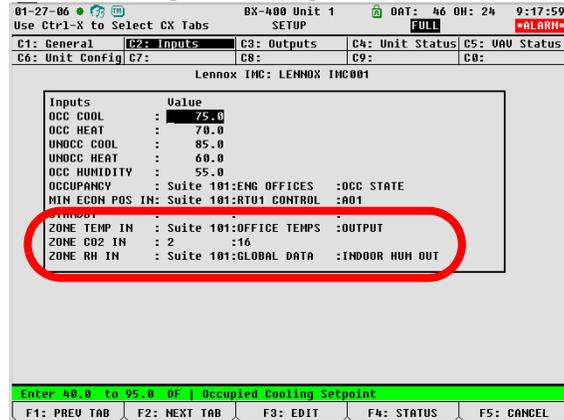

Figure 11 - Lennox IMC Setup Screens (Inputs Tab)
3. From the IMC Status Screen, press **F5** (SETUP) and then press **F2** (NEXT TAB) to move over to the Inputs tab of the Lennox IMC setup screens (*Figure 11*).